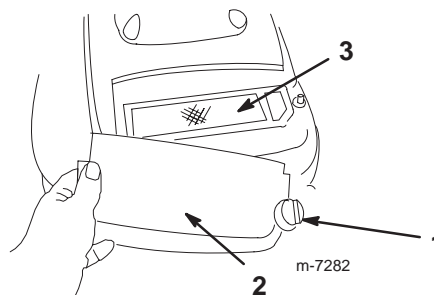

Figure 24
3. Remove the screw that secures the air cleaner cover (Fig. 24).
4. Remove the cover and clean it thoroughly (Fig. 24).
5. Remove the paper air filter and discard it (Fig. 24).
6. Remove the foam pre-cleaner and wash it with a mild detergent and water, then blot it dry (Fig. 24).